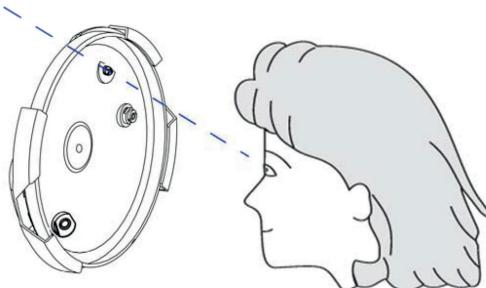

Fig.8
1. Before use, make sure that the hole of both safety valve and steam-releasing pipe is unobstructed. If any of them is obstructed, clear them with the dredging needle. (Fig.8 Observe the steam-releasing is obstructed or not.)